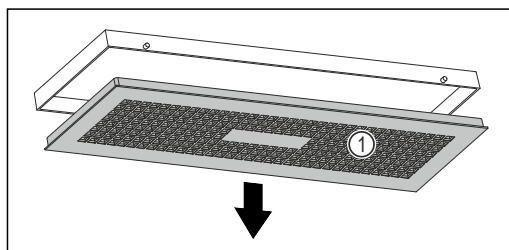

Fig. 96
- Slowly turn the water box downward and keep a firm hold on the cover Fig. 96 (1) while doing so.
- Remove the cover Fig. 96 (1).